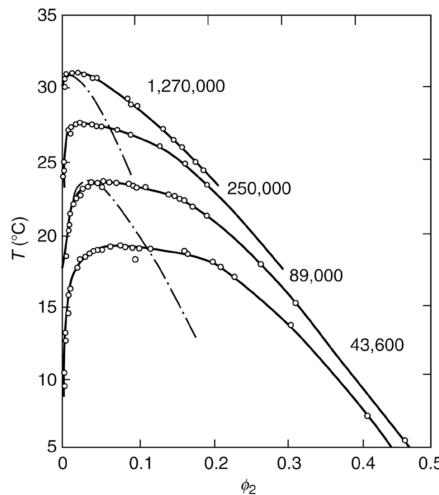

Figure 2.12: Flory-Huggins theory vs. experiment.
- Note that Figure 2.12 is lifted from Lodge and Hiemenz (2020, p. 300) rather than the original paper as in the slides, since the textbook's figure is more consistent with the notation used thus far.